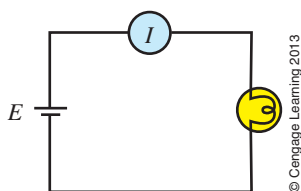

FIGURE 2–32
17. If 360 joules of energy are required to transfer 15 C of charge through the lamp of Figure 2–1, what is the voltage of the battery?
20. How much energy is required to move 20 mC of charge through the lamp of Figure 2–24?
23. Given a voltage of 12 V for the battery in Figure 2–1, how much charge is moved through the lamp if it takes 57 J of energy to move it?
24. For the circuit of Figure 2–1, if 27 C pass through the lamp in 9 seconds, what is the current in amperes?
25. If $250\ \mu\text{C}$ pass through the ammeter of Figure 2–32 in 5 ms, what will the meter read?
26. If the current $I = 4\text{ A}$ in Figure 2–1, how many coulombs pass through the lamp in 7 ms?
27. How much charge passes through the circuit of Figure 2–25 in 20 ms?